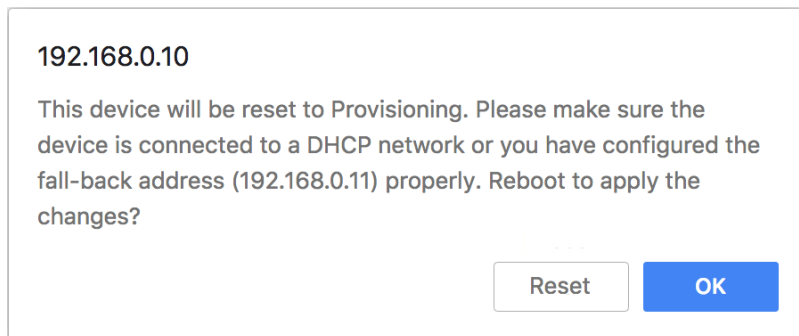

Figure 18. Unit reboot dialog (typical)
- The web browser will show the unit reboot dialog (Figure 18 \(page 63\)).